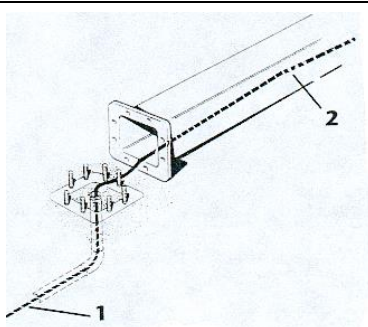

fig. 26
- a) In the case of cable 1 that protrudes from the pipe set up in the plinth, directly insert the cable in the column until reaching hole 2 located at the top of the column (fig. 26)